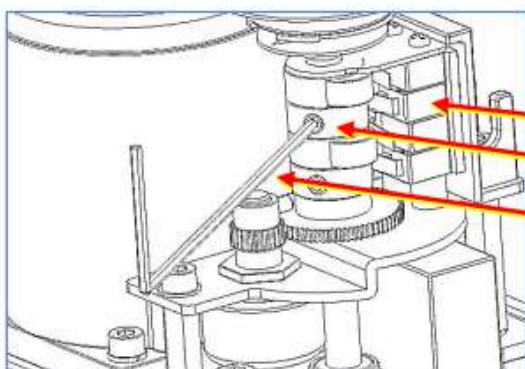

Figure 1: Close Cam Setting
- Rotate the CLOSE cam CW until the limit switch ‘clicks’ (see Figure 1 below)